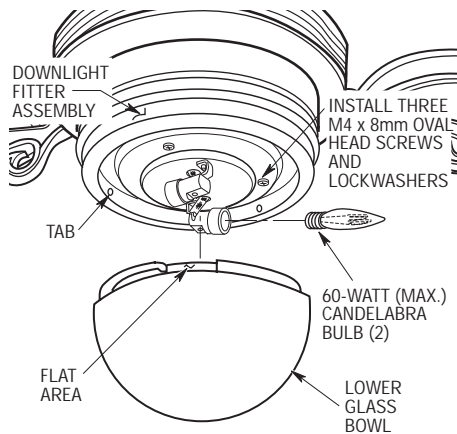

Figure 14
- 10. Screw in two 60-watt (maximum) candelabra bulbs (not supplied) in the light fitter sockets (Figure 14).
- 11. Place the lower glass bowl into the downlight fitter, aligning the three flat areas on the glass bowl flange with the three tabs on the downlight fitter (Figure 14). Then turn the lower glass bowl clockwise until the glass bowl stops turning.